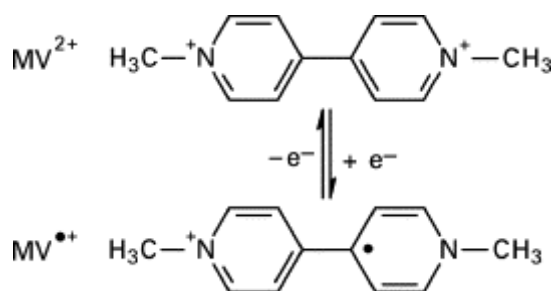

Figure 15: $MV^{2+} \leftrightarrow MV^+$
Methyl Viologen (MV) is also known as paraquat. It is used as a herbicide, but due to its toxicity for humans and scientific studies showing links between methyl viologen and Parkinson's disease it has lost popularity. Methyl viologen's toxicity is based on its RedOX chemistry. The reduction of the colorless ion MV^{2+} leads to the blue radical ion MV^+ (see Figure 15).